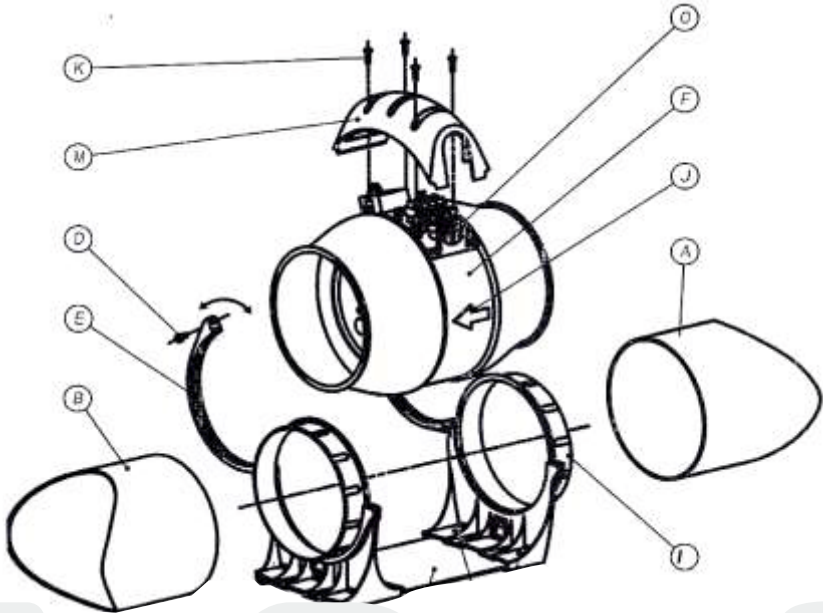

fig. 2
Make sure that the voltage (V) and frequency (Hz) of the power supply correspond to the values indicated on the nameplate. The appliance must be able to be disconnected from the mains electricity supply after installation. It can be disconnected by making the plug accessible or by incorporating a switch in the fixed wiring that meets electrical installation standards. The appliance must be permanently connected with wiring for fixed installation. (2- or 3-core cable with a minimum cross-section of 1 mm² and maximum of 1.5 mm²). To complete the electrical connection, follow the wiring diagram depending on the model that you wish to connect (see fig. 3A, 3B, 3C). No earthing connection is required, given that this is a doubly-insulated appliance (Class II). Remove the connection cover as shown in fig. 2. Perforate the flex holder (O) to allow the power supply wires to pass through. The power supply cable must be placed so that no liquid or vapour can enter the appliance along it. If this were not possible, the cable entry should be sealed additionally, e.g. with silicone. Otherwise, the indicated IP rating could not be maintained. This appliance has a one, two or three-speed motor (depending on the model). If you wish to install a mechanical rotation switch that lets you choose between high speed, medium speed and slow speed, see fig. 3A - 3C.